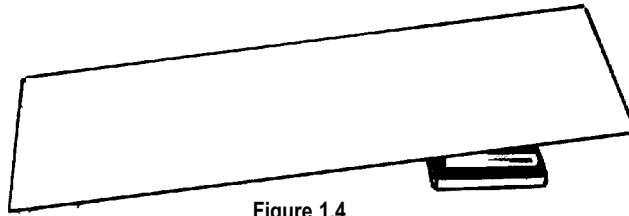

Figure 1.4
3. Make a ramp for testing by placing books under one end of the long piece of cardboard so that it is raised about 6 inches off the floor (see Figure 1.4).